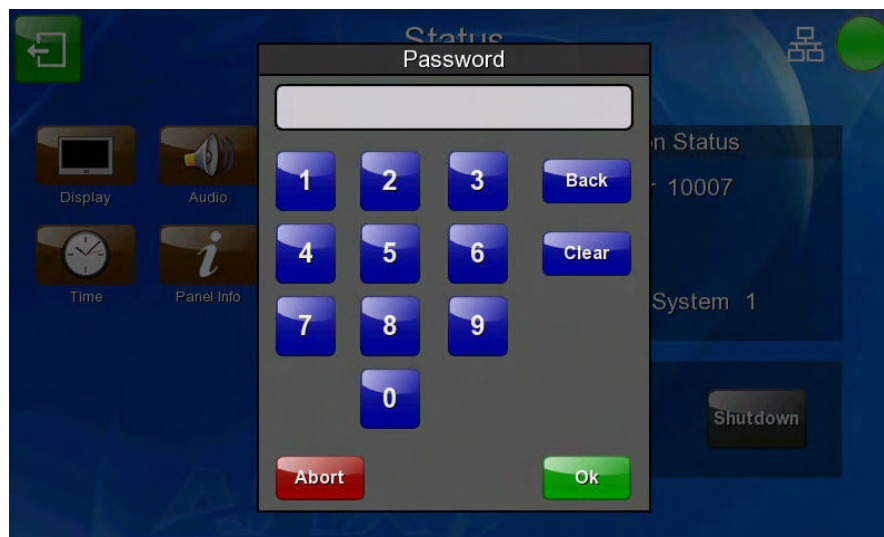

FIG. 58 Protected Settings page password keypad
6. From the *Setup* page, select the **Protected** button on the left side of the screen. This opens the password keypad (FIG. 58).